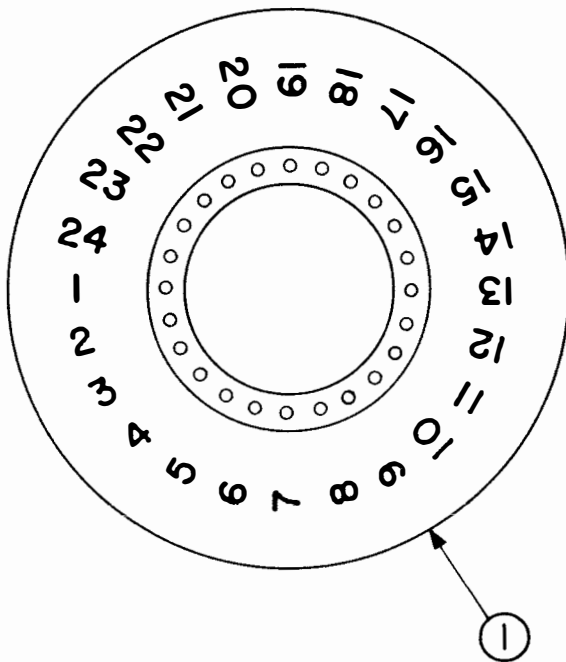
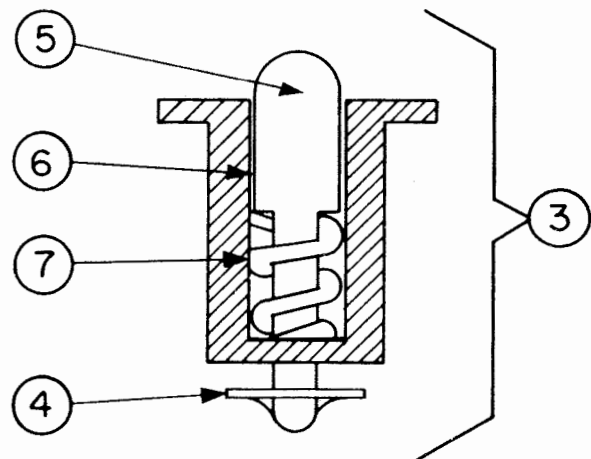
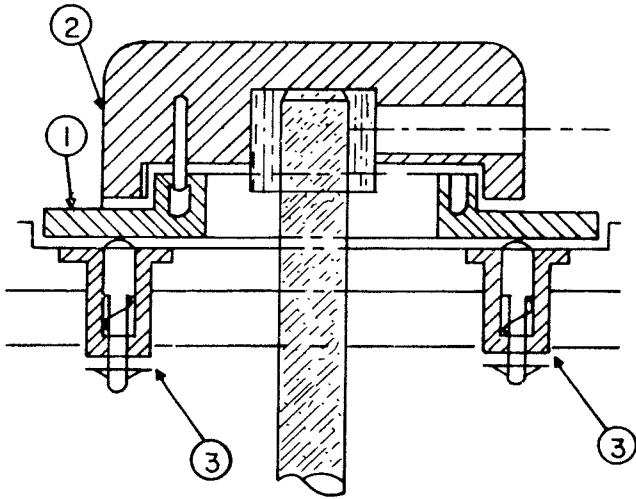

Figure 1. Skirt
Figure 3. Plunger Assembly
Figure 4. Relationship of Assemblies
The channel indicator portion of the RADIO CHANNEL selector switch is composed of a numbered Skirt (Fig. 1), a knob assembly (Fig. 2) and three plunger assemblies (Fig. 3) arranged on the electro-luminescent intercommunication panel as shown in Fig. 4. Only two of the three plunger assemblies (Item 3) are shown in Fig. 4.
The spring loaded plunger, (Fig. 3, Item 5) presses against the underside of the numbered Skirt (Fig. 4, Item 1) holding it firmly against the knob assembly (Fig. 4, Item 2). The pin on the knob assembly engages the hole corresponding to the selected channel number. Any ten consecutive numbers may be chosen to correspond with the ten channels fed to the selector switch.
It has been found that after the electro-luminescent panels have been dis-assembled and reassembled, the retainer clips (Fig. 3, Item 4) have been pushed too far up the shaft of the plungers, (Fig. 3, Item 5) thereby inhibiting the plunger assemblies from applying pressure to the bottom of the Skirt. When the Skirt is not held up against the knob assembly, the plunger assemblies should be examined for proper spring action. (685)